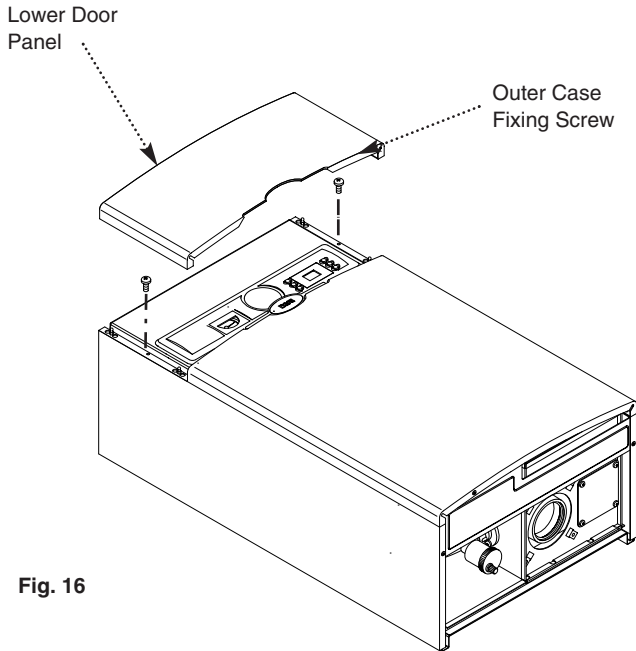
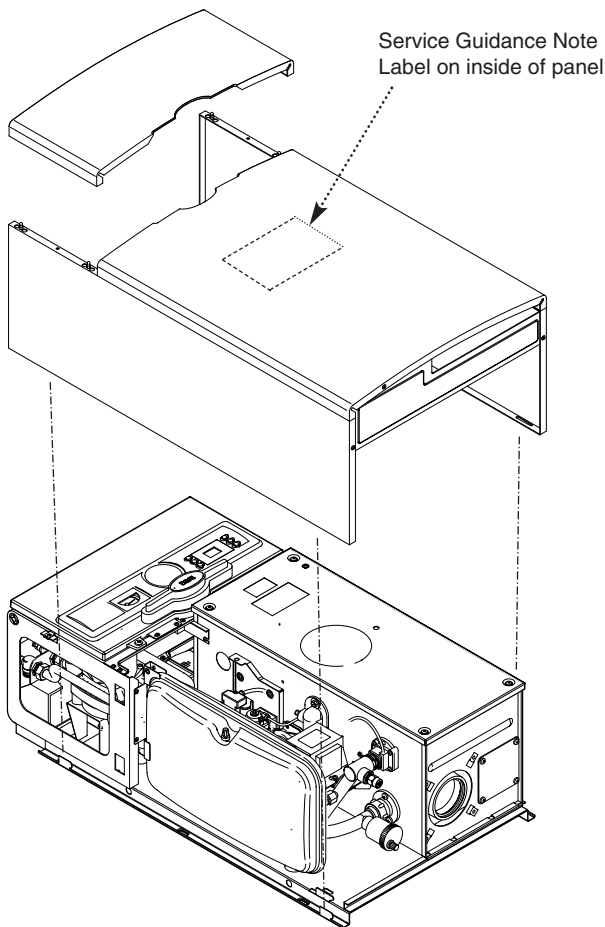

Fig. 16
Fig. 17
2. Remove the lower door panel (Fig. 16).
3. Remove the outer case fixing screws (Fig. 16). Slide the outercase upwards to disengage the hooks on the backplate and remove (Fig. 17).
NOTE: Service Guidance Note Label is fitted to the inside of the outercase (Fig. 17).